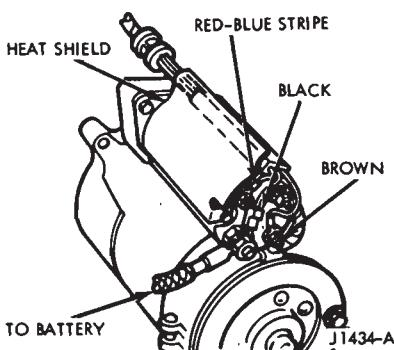

FIG. 3—Starter Cable Connections
3. Connect the cable and wires to the terminals on the solenoid (Fig. 3). Tighten the battery cable nut to 45-95 in-lbs torque.